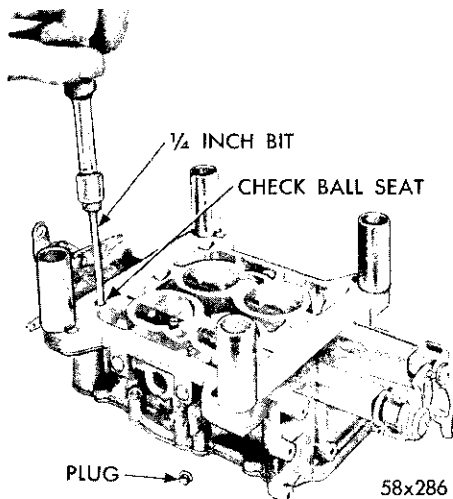

Fig. 27—Removing or Installing Accelerator Pump Intake Check Ball Seat
(6) Invert the main and throttle body casting, and remove the accelerator pump intake check ball plug. Using Tool T109-59, screwdriver bit, remove the check ball seat, as shown in Figure 27. Again invert the body casting and drop out the intake check ball.
(7) Remove the two idle mixture adjusting screws and springs from the throttle body portion of the main casting.
(7) Invert the carburetor and install the accelerator pump intake check ball. Install seat and tighten securely, using Tool T109-59 (Fig. 27). Install screw plug and tighten securely.